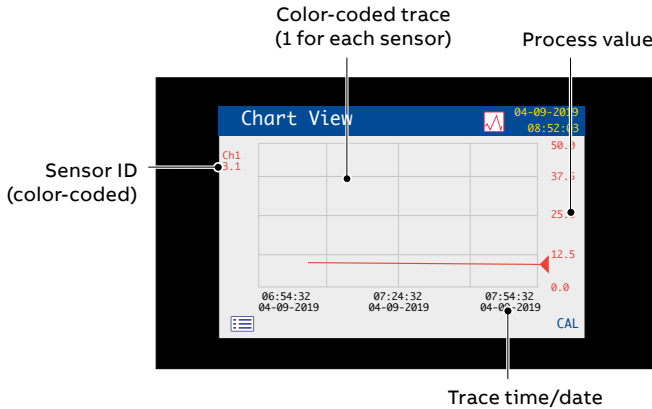

Figure 9 Chart View
- **Chart View** – represents the sensor readings as a series of color-coded traces – see Figure 9